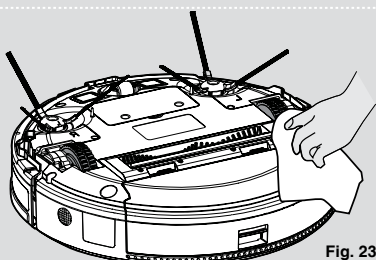

Fig. 23
3. Clean the wheels with a dry cloth. **[Fig. 23]**